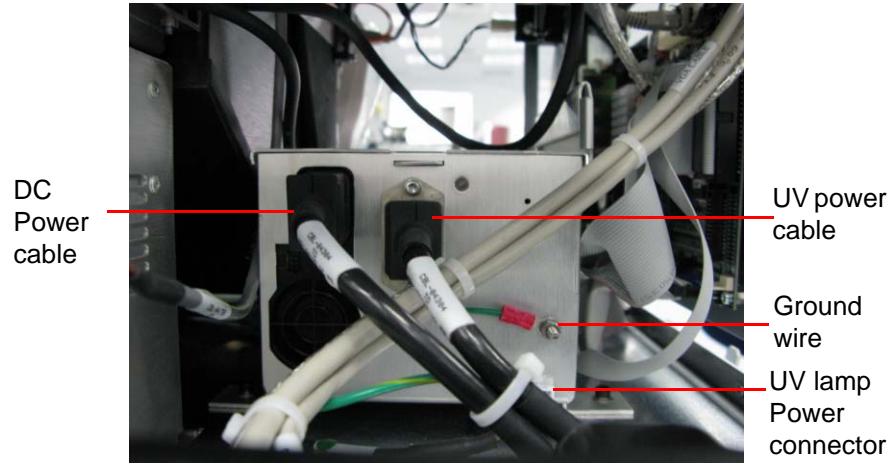
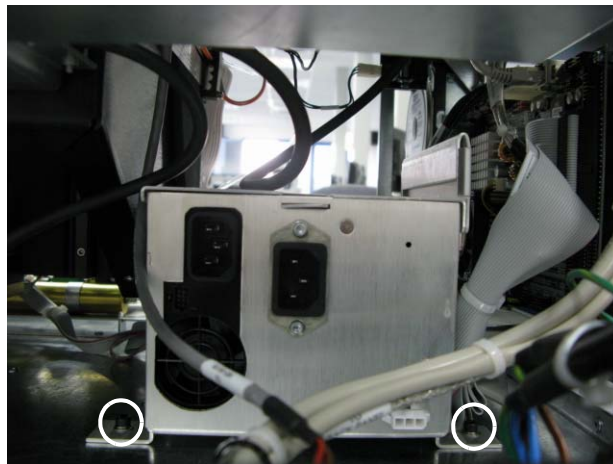

Figure 136 Power Supply Unit (rear view)
Figure 137 Power Supply Rear Screws
23. Reconnect the following at the rear of the power supply (see Figure 136 and Figure 137):